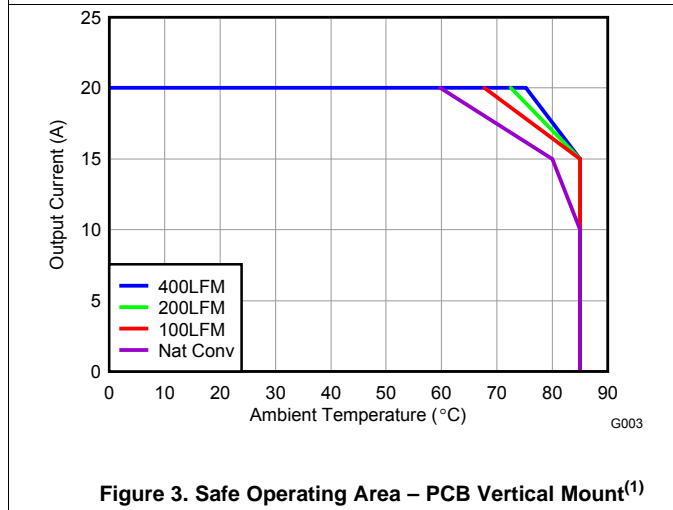

Figure 3. Safe Operating Area – PCB Vertical Mount⁽¹⁾
The SOA curves in the CSD86330Q3D data sheet provides guidance on the temperature boundaries within an operating system by incorporating the thermal resistance and system power loss. **Figure 3** to **Figure 5** outline the temperature and airflow conditions required for a given load current. The area under the curve dictates the safe operating area. All the curves are based on measurements made on a PCB design with dimensions of 4" (W) × 3.5" (L) × 0.062" (T) and 6 copper layers of 1 oz. copper thickness.